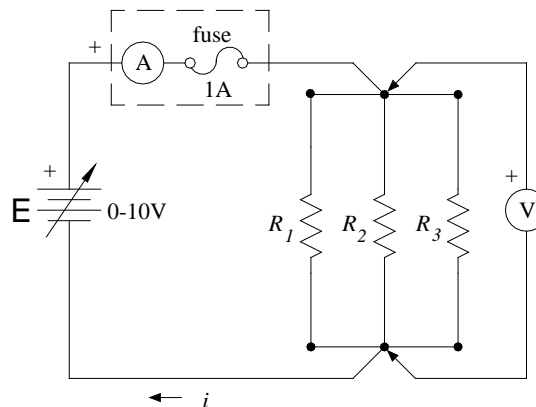

Figure 4 Schematic of resistors wired in parallel.
8) Assemble the resistors in parallel as shown in Figure 4. Using your measurements of voltage and current, again calculate the resistance of the network. Again adjust the scales on the meter to get the highest possible precision. For resistors in parallel: